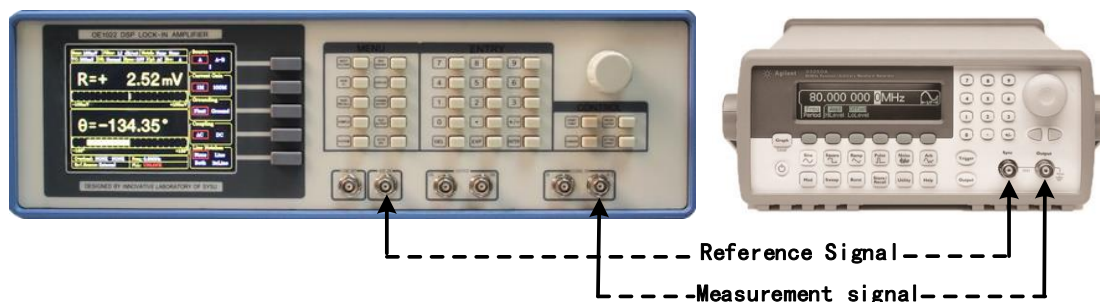

Fig.87 Signal Cable Connection Diagram
2. Use a BNC cable to connect the output of the function signal generator and the A/I input of the OE1022. Use another BNC cable to connect the reference signal of the function signal generator and the REF IN of the OE1022, as is shown in Fig.87.